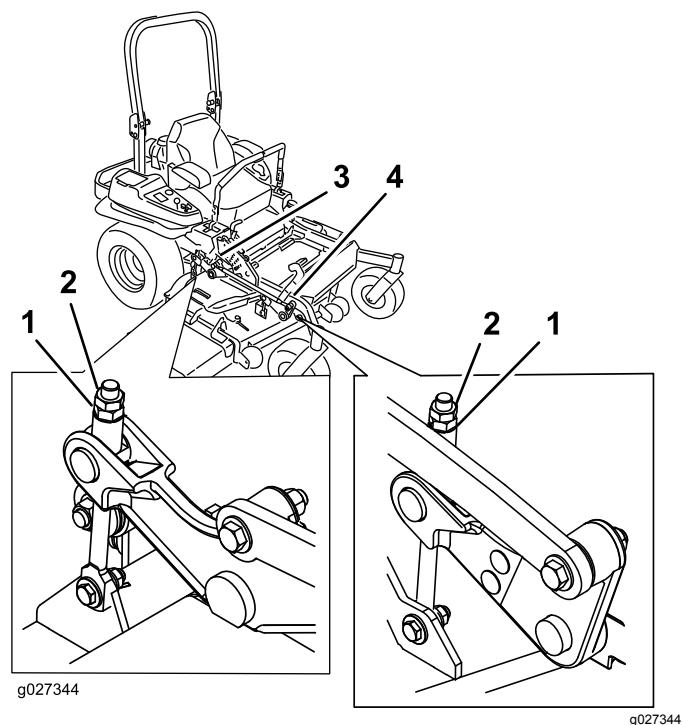

Figure 98
10. Fine-tune the adjustment nut on the front deck-lift assembly by turning it (Figure 98).
16. Fine tune the screw adjuster by turning it to get 8.3 mm (3-1/4 inches) height (Figure 98).